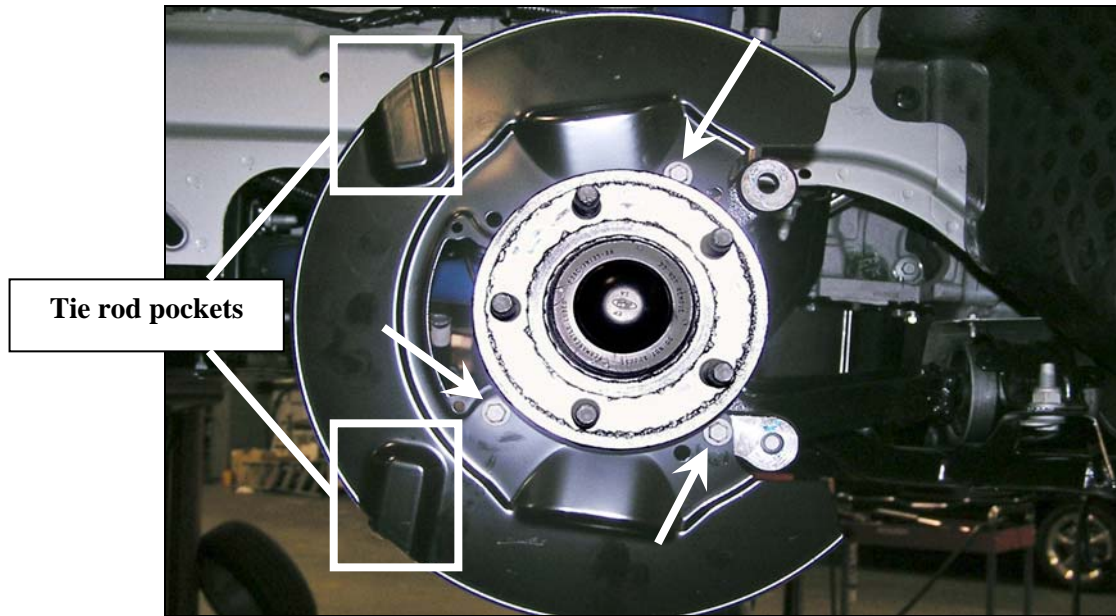

Figure 9
1. Place the ROUSH Dust Shield into place over the hub with the cut-out portion to the rear side of the hub and the pockets for the tie rod end facing out. Refer to Figure 9. Secure with the bolts removed from the factory dust shield. Torque the bolts to 10 Nm (89 lb-in).